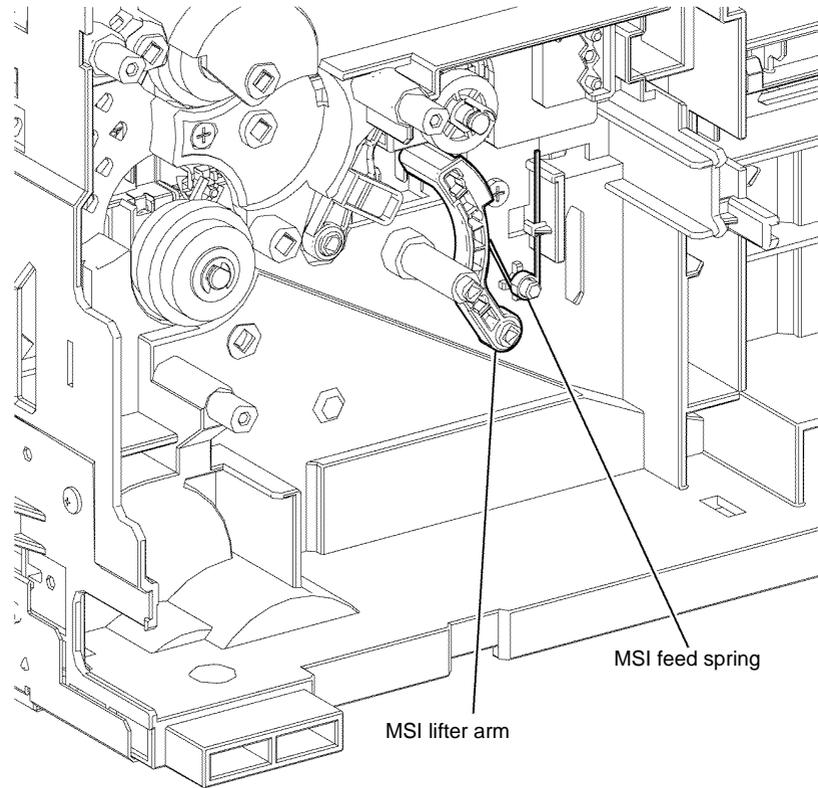

Figure 9 MSI lifter arm installation
4. When installing the MSI lifter arm., ensure the MSI feed spring is correctly positioned, Figure 9.